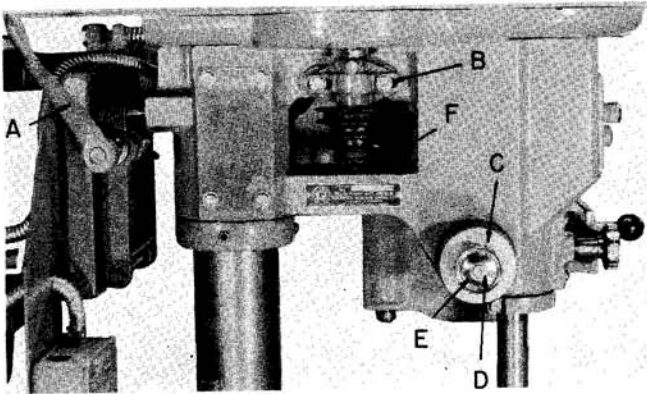
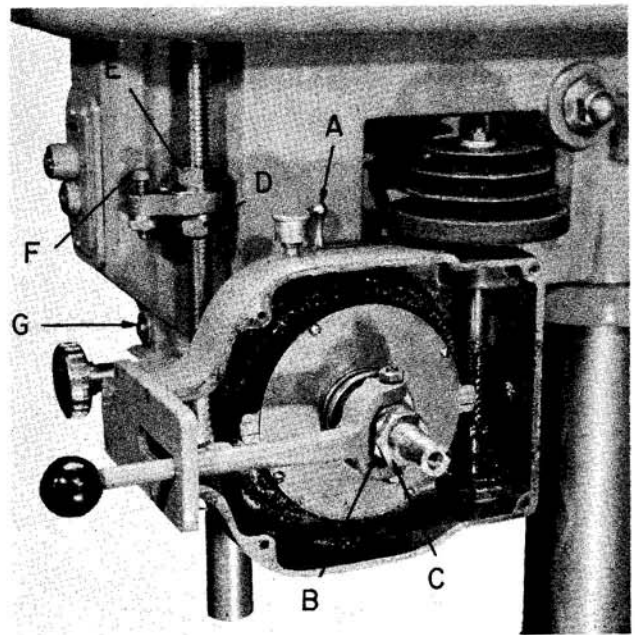

FIGURE 2
FIGURE 3
2. Release tension on motor bracket by moving handle (A) Fig. 2, on left side of motor bracket towards front of head.
Adjusting Spindle Return Spring: For the purpose of automatically returning spindle upward after a hole has been drilled, a spring is provided enclosed in a case and is located on the left side of drill press head, see (C) Fig. 2. This spring has been properly adjusted at the factory and this adjustment should not be disturbed unless absolutely necessary. If it should become necessary to adjust it, proceed as follows:
1. Back off cap screw (D) Fig. 2.
2. Back off nut (E).
1. Remove the two screws and washers, (G) Fig. 3.
Drilling Holes to Depth: On the right side of the drill press head is a stop rod which is mounted in a collar that clamps on the bottom end of the quill. Lower the quill to the desired depth of hole and lock in this position. Run the lower nut (D), Fig. 3 down against the stop. Raise quill to lift the nut off the stop and bring the upper nut (E) down and tighten it firmly against the lower nut. This will permit equal depth of drilling when more than one hole is to be drilled to the same depth.
On power feed models the stop rod has a micro-adjusting stop. The screw (F) Fig. 3, in the feed stop is adjusted for fine depth setting after the nuts have been set as described above. After screw (F) in feed stop has been adjusted, lock in place with knurled lock nut.
2. Loosen two cap screws (B) Fig. 2 that hold countershaft assembly bracket.
Lower power feed drive belt (F) Fig. 2 can be changed by releasing pressure on belt tensioner by moving handle (A) Fig. 3 on tensioner toward rear.
Clutch Adjustment: The clutch used on 20" drill press power feeds is of the multiple disc type and will be found to be extremely sensitive in operation. It may be adjusted to slip under any predetermined load to minimize breakage of small drills, or be positive in its action for regular or large hole drilling. Adjustments are made by first removing the pilot wheel and clutch housing cover. The adjusting nut (B) and lock nut (C), Fig. 3 are used to make the adjustment. Turning in or clockwise will increase the holding pressure, while turning it out will decrease it. This adjustment is extremely sensitive, do not turn the adjusting nut more than 1/8 turn at any time without checking engaging lever. If nut is drawn up too tight, it will not be possible to engage the clutch.